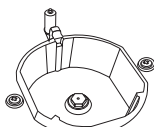

Figure 2
3. As seen in figure 2, demount burner lid and burner of the cooktop and ensure visibility of injector.